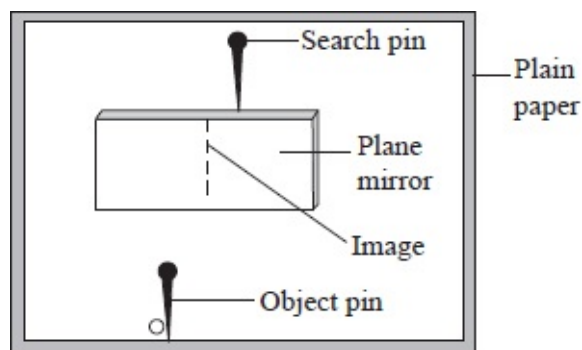

Fig. 8.34: Finding image position by non-parallax
- With the mirror on the mirror line, position an object pin, O, about 10 cm in front of the mirror, see figure 8.34.